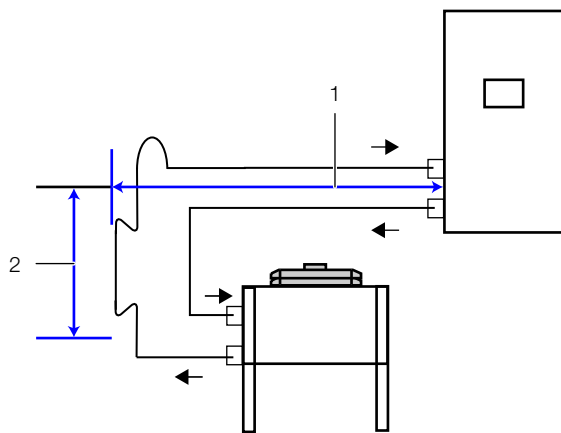
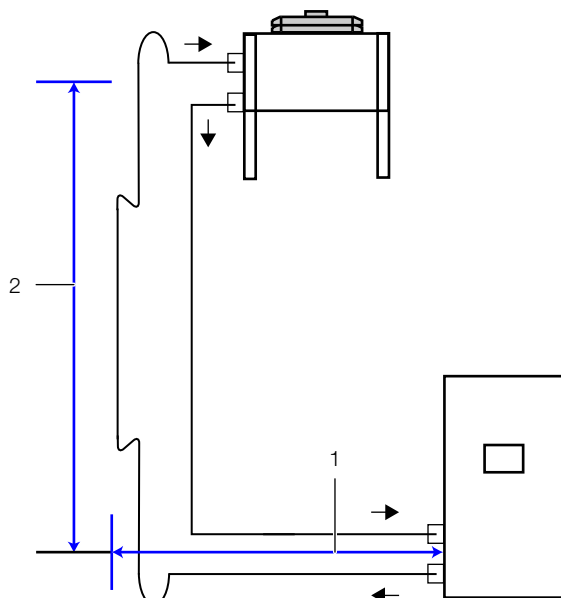

Fig. 8: Relative positioning condenser below the LCP DX
Fig. 9: Relative positioning above the LCP DX
Sum total of horizontal (fig. 8, item 1) and vertical spacing (fig. 8, item 2 or fig. 9, item 2) between the LCP DX and the condenser	Max. 60 m overall equivalent length
Condenser above LCP DX (fig. 9, item 2)	max. 20 m
Condenser below LCP DX (fig. 8, item 2)	max. 3 m